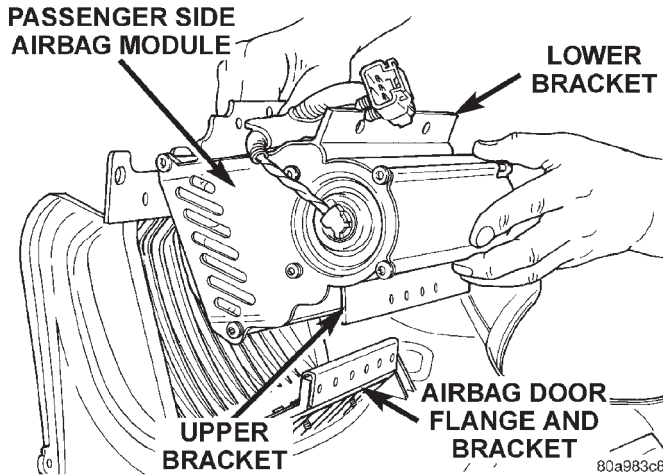

Fig. 7 Passenger Side Airbag Module Remove/Install
(6) Remove the passenger side airbag module from the upper airbag door flange and bracket on the instrument panel top cover (Fig. 7).